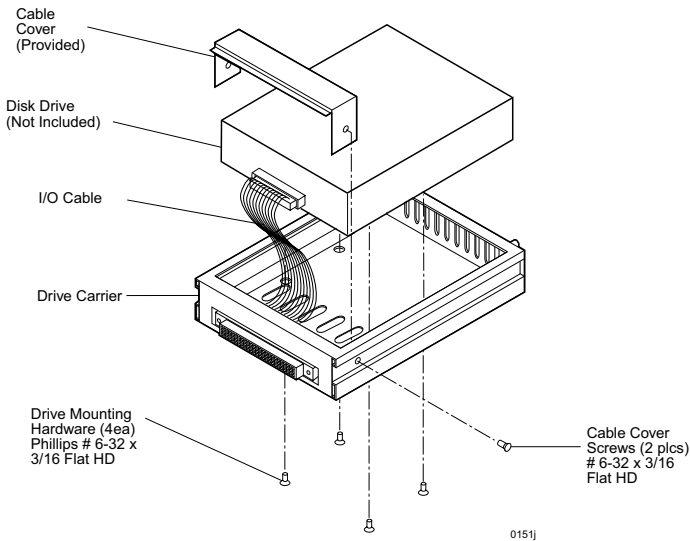

*Figure 6A: Drive Installation Assembly
1. Attach the I/O cable from the rear distribution board of the DE100i-SW carrier to the disk drive (Figure 6A).
2. Attach the 4-pin DC power cable from the rear distribution board to the disk drive (Figure 6A).